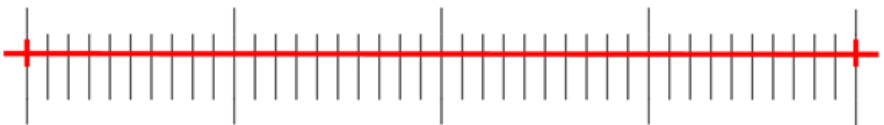

Figure 5-8
4. The minimum range of the selected micrometer is 0.01 mm (10 microns). Figure 5-8 shows the image under a ten-magnification objective lens. Currently, the “magnification” is set to “10X”, the “unit” is marked as “ μm ”, and the “length” is set to “40”.